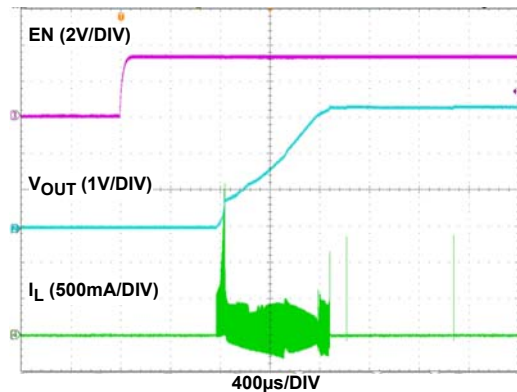

FIGURE 2. START-UP WITH  $V_{IN} = 3.6\text{V}$  and  $V_{OUT} = 3.3\text{V}$ , NO LOAD
Refer to the following Quick Setup Guide to configure and power up the board for proper operation. During the power on process, the expected waveforms are shown in Figures 2 and 3.
7. Monitor the output voltage start-up sequence on the scope. The waveforms will look similar to that shown in Figures 2 and 3.